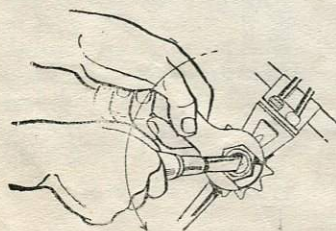
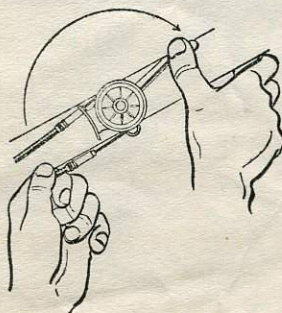

Fig. 6
Fig. 7
Fig. 6 shows operator locating the slot of spindle (C) into correct position with the outside locking nuts, STILL LOOSE, place lever into LOW gear position before attempting to place the transmission adjuster into place (fig. 7).